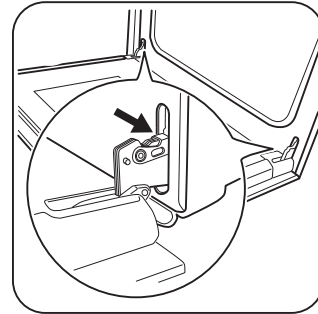

Figure 30: Door hinge locations
1. Open the door fully, horizontal with the floor, and hold the two door hinges (Figure 30).
3. Fully open the oven door, horizontal with floor (Figure 30).